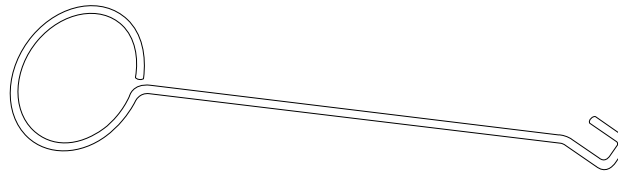

Figure 4-3 SIMM Extraction Tool
6. **Insert the hooked end of the extraction tool (see Figure 4-3) into the left or right SIMM extraction hole.**